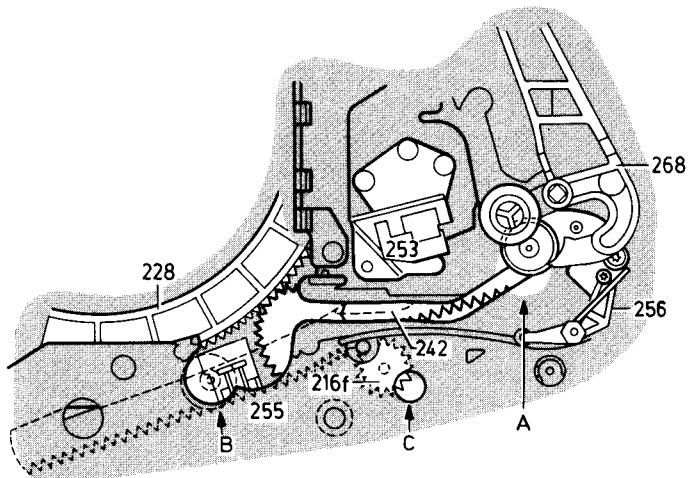

Fig. 1-13
- Push the gearwheel pos. 216-f 'C' (Fig. 1-13) through the hole in the top plate down and hold it. (the pressure roller is now unlocked by the gearwheel).
- Demount spring pos. 269 from pressure lever pos. 268 and place in control lever pos. 272.
- Mount drive belt pos. 271.
**Check:** - The pressure roller is in position B (Fig. 1-13) with play and the swivel wheel can be moved in the end position with play otherwise correction is needed according chapter 1-12.